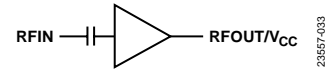
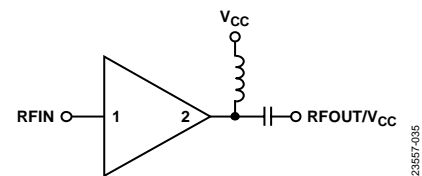
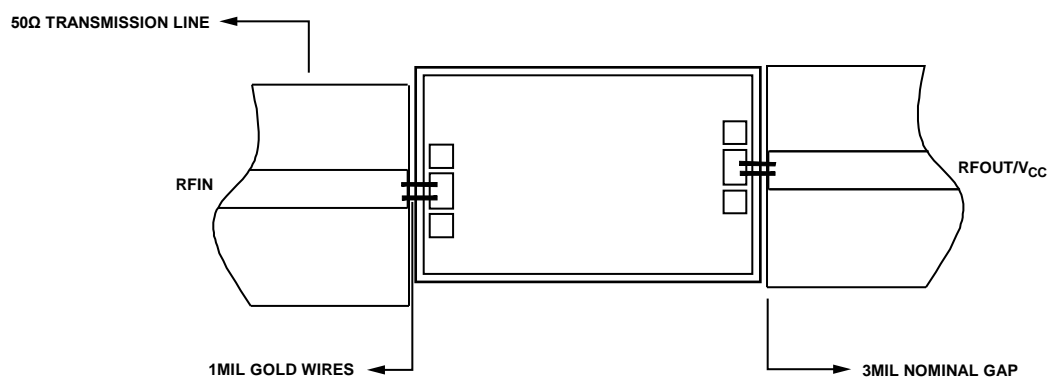

Figure 33. Simplified Block Diagram
Figure 34. Typical Application Circuit
Figure 35. Assembly Diagram
The ADL8150ACHIP is a self biased, single 5 V power supply amplifier. RFIN is dc-coupled, and RFOUT/V_{CC} requires an external bias tee (see Figure 35). Figure 33 shows the simplified block diagram.
The ADL8150ACHIP is a self biased GaAs, MMIC, HBT, low phase noise amplifier. Figure 34 shows the typical application circuit. Adhere to the following bias sequence during power-up:
2. Set the V_{CC} supply to 5 V on a bias tee on the RFOUT/ V_{CC} pin (see Figure 34).
Figure 35 shows the assembly diagram, and Figure 34 shows the typical application circuit diagram.